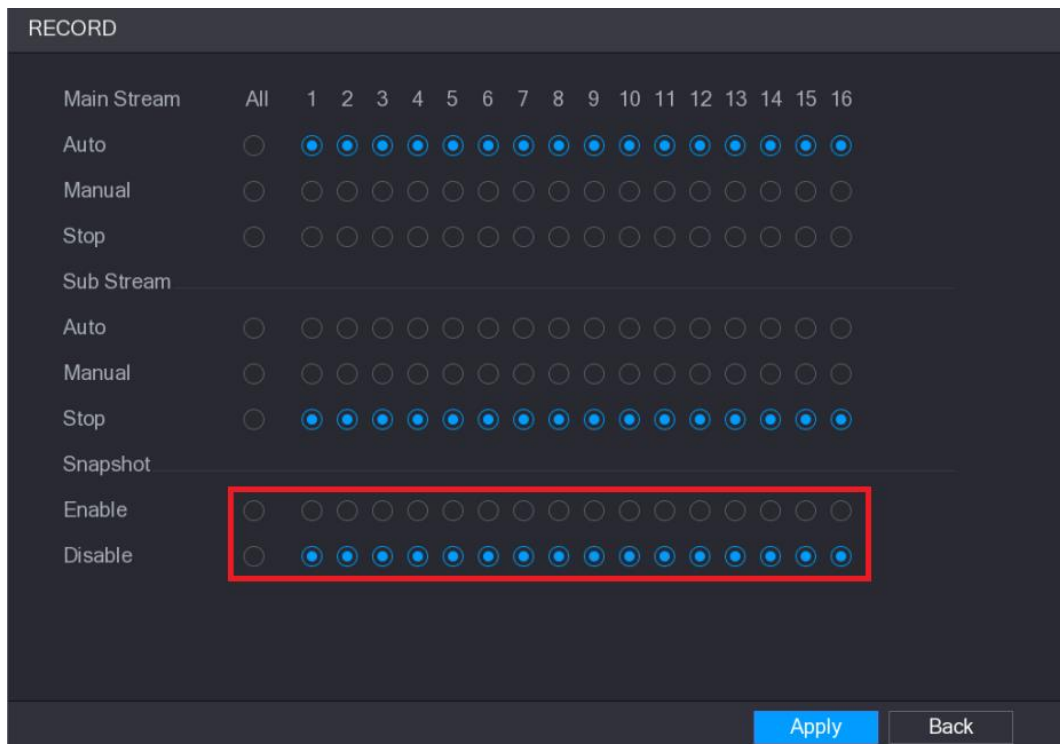

Figure 5-89
**Step 3** In the **Snapshot** area, enable the snapshot for the channels if needed. See Figure 5-89.